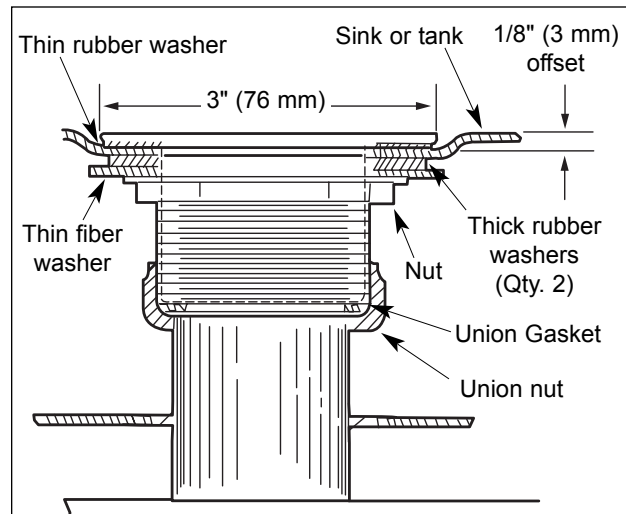

Figure 5. Installing Sink Strainer
4. See Figure 5. In each of the holes, install a male threaded sink strainer with a thin gasket between the strainer flange and the bottom of the holding vessel.